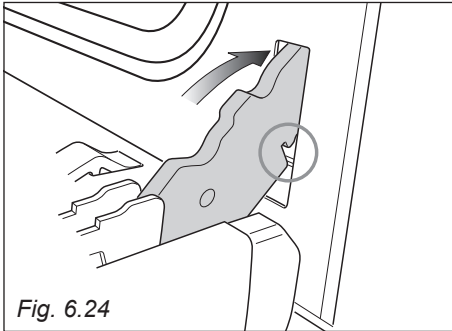

Fig. 6.24
2. Insert the hinge tongues into the slots, making sure that the groove drops into place as shown in the figure 6.24.